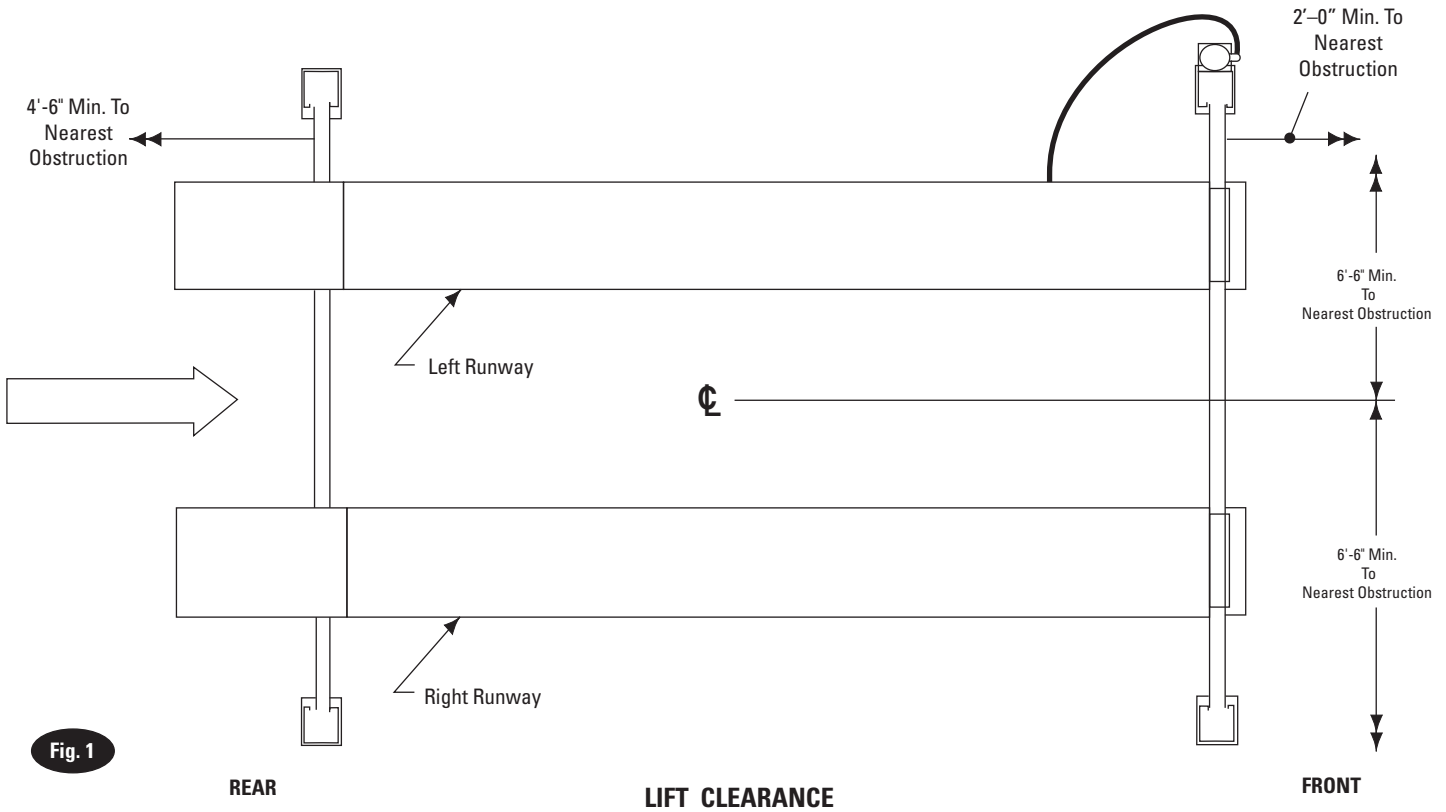
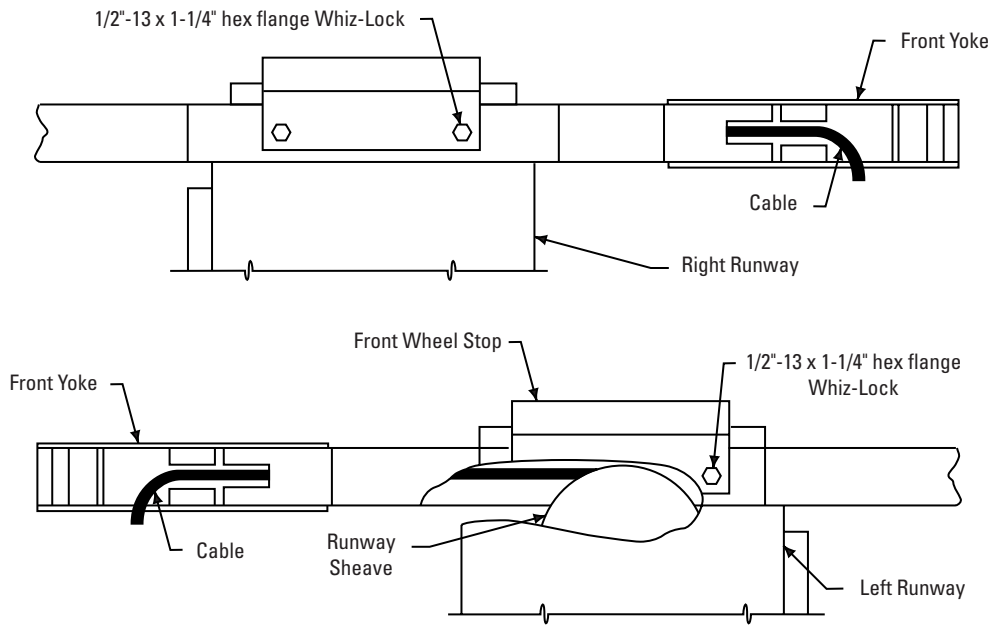

Fig. 1
Fig. 4
- Lift Location:** Use architects plan when available to locate lift. Fig. 1 shows dimensions of a typical bay layout. For power unit at right front, rotate lift 180°, leaving ramp/chocks and wheel stops in original position. Lift floor area should be level.
- C. Position front and rear yokes at respective ends of runway, Fig. 1. The opening in the side of the yokes should be lined up with the cable sheaves in the runway ends. Feed cable ends through yoke openings, Fig. 4. Do not assemble sheaves in yoke ends at this time.
With the openings in the yoke tube side lined up with the left runway ends, align the two (2) holes in the top of the front yoke tube with the slots in the runway end plates and the holes in the front wheel stops. Bolt runway to the yoke using four 1/2" x 1-1/4" hex flange bolts, Fig. 4.